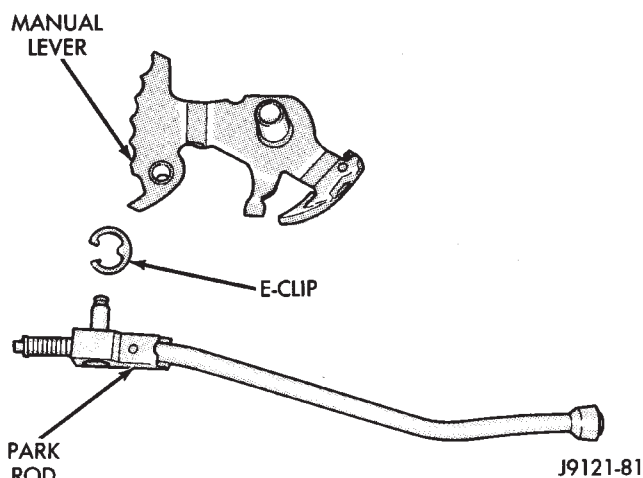

Fig. 97 Park Rod Removal—46RH
- (9) Remove park rod E-clip and separate rod from manual lever (Fig. 97).
- (10) Remove screws attaching pressure adjusting screw bracket to valve body and transfer plate. Hold bracket firmly against spring tension while removing last screw.